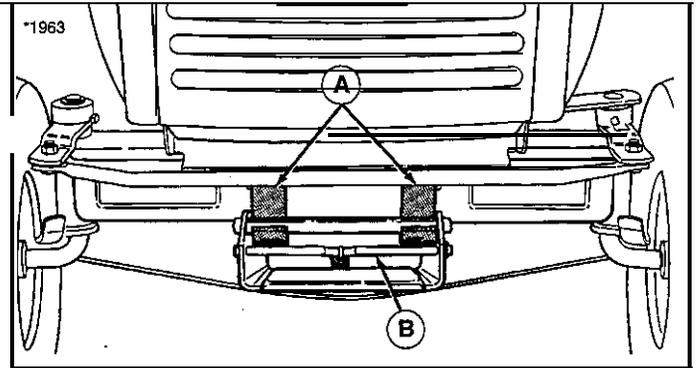

Figure 11. Mower Hitch
3. See Figure 11. Turn wheels straight. Pull back on the spring-loaded lever (B) while lifting up on the mower hitch. Install mower hitch onto tractor hitch brackets (A). When properly installed, the spring-loaded lever should seat fully underneath the brackets.